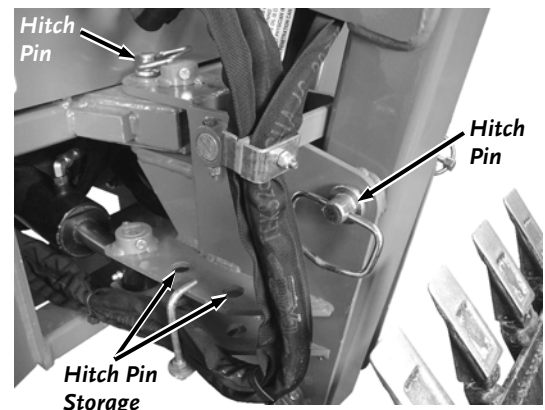

Figure 24
9. Remove the Lynch Pins from the Hitch Pins and then remove the two Hitch Pins from the storage area. Install the Hitch Pins into their positions to lock the Boom in place (**Figure 24**).